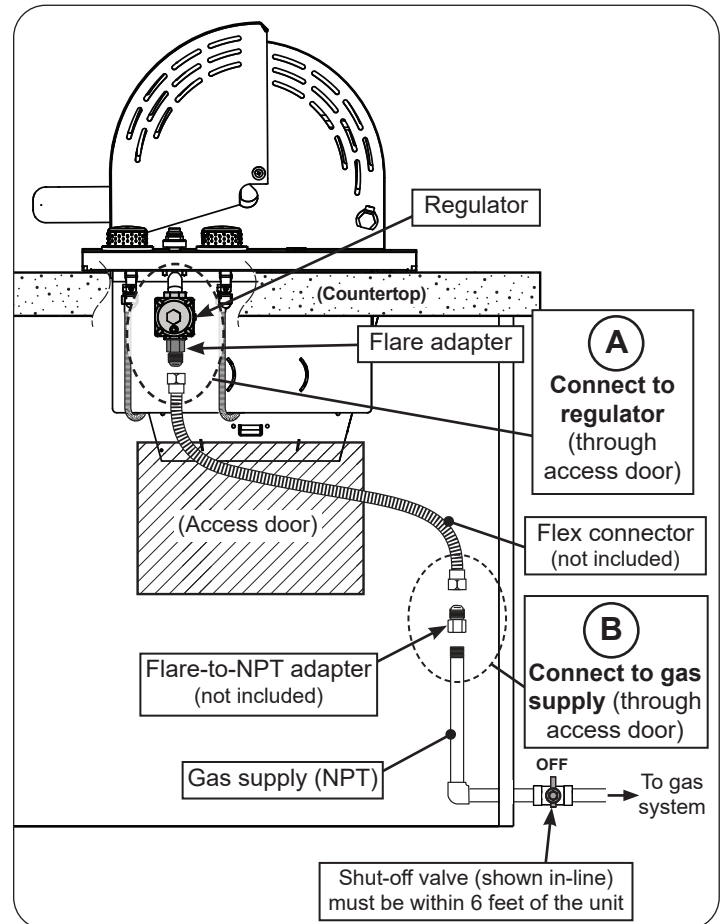

Fig. 26-1 Household L.P. & Nat. gas diagram
- Locate the regulator found on the right side of the unit. Connect a flex connector (not included) to the 1/2" flare adapter found on the regulator. Support the regulator adapter with a wrench to avoid applying excessive torque to the assembly while tightening. Do not use pipe compound on the flare fitting. See Fig. 26-1, A.
- Route the other end of the flex connector to the gas supply (see Fig. 26-1, B).